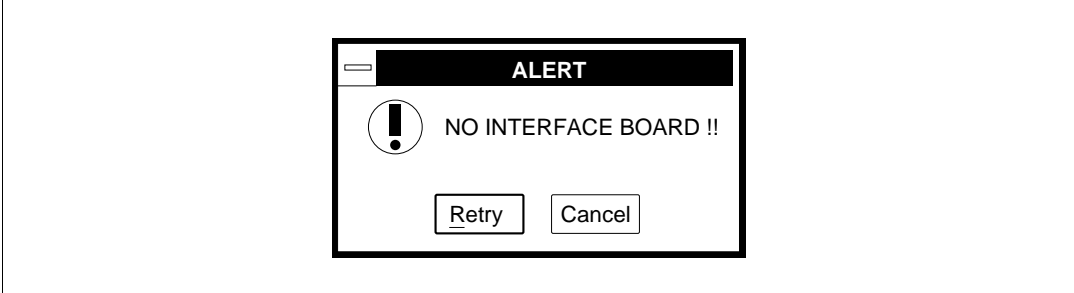

Figure 2-14 Emulator Status Confirmation Message Box
- (6) If the E7000PC emulator power is off, or if the IBM PC interface board or interface cable is not correctly connected, the message box shown in figure 2-14 is displayed. In this case, power on the E7000PC emulator and click the <OK> button, or terminate the GUI-SH by clicking the <Cancel> button and check the hardware settings.